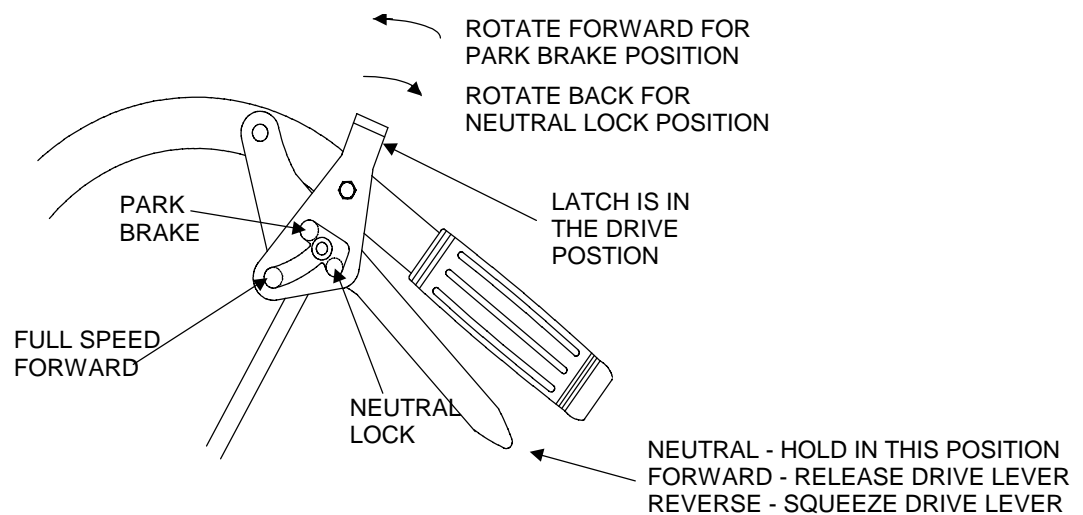

FIG. 12
- 4.1.3 **Neutral Lock/Parking Brake Latch:** Located directly above the drive levers. The purpose of these latches is to allow the operator to lock the drive levers in a "neutral" position where neither the wheel drive belts nor the brakes engage, or in a "park brake" position where the wheel drive belts are not engaged and the park brake is engaged. To lock the drive levers in "neutral", squeeze the drive levers back, place thumbs on the upper portion of the neutral lock/park brake latches and move them to the rear. Release drive levers. To lock the levers in "park brake", squeeze the drive levers back, place thumb on the upper portion of the neutral lock/park brake latches and move them ahead. Release drive levers (See Figure 12).
- 4.3.4 Drive Lever/Neutral Lock/Park Brake Latch Operation: To lock the drive levers in neutral, squeeze the drive levers back to the “neutral” position. Place thumbs on the upper portion of the neutral lock/park brake latches and move them to the rear. Release drive levers (See Figure 12).
To lock the drive levers in “park brake”, squeeze the drive levers back to brake position. Place thumbs on the upper portion of the neutral lock/park brake latches and move them to the front. Release drive levers. (See Figure 12)